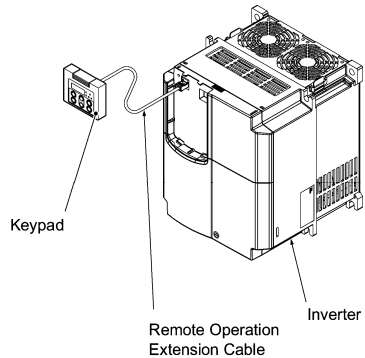

Figure 2.31 Installing Keypad at a Remote Site (e.g. for Operation on Hand)
- Installing a keypad at a remote site (e.g. for operation on hand) (Refer to Figure 2.31.)